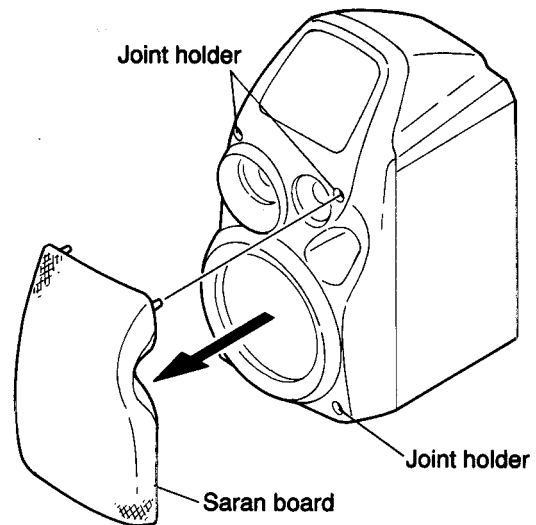

Fig. 5-59
■ Removing the Saran board (See Fig. 5-59.)